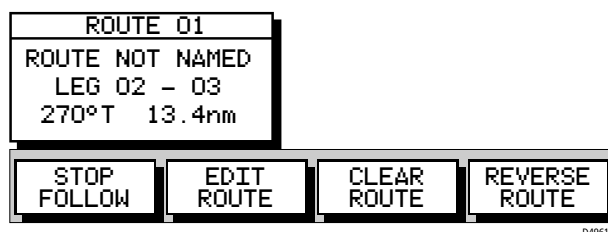

Figure 3-36: Stop Follow Soft Keys
3. If following the current route, the STOP FOLLOW soft keys are displayed as shown in *Figure 3-36*.